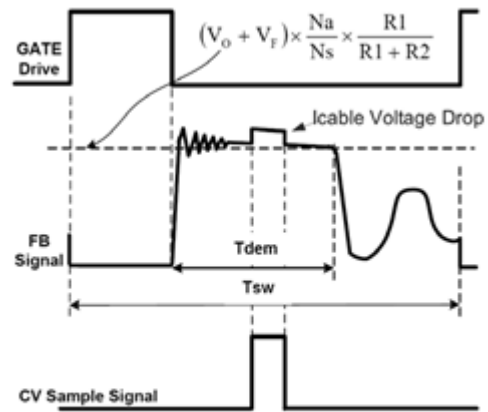

Fig.2
In primary side control, the output voltage is sensed on the auxiliary winding during the transfer of transformer energy to the secondary. Fig.2 illustrates the CV sampling signal timing wave form in SA3540.
As shown in Fig.2, it is clear that there is a down slope representing a decreasing total rectifier Vf and its voltage drop as the secondary current decreases to zero. To achieve an accurate representation of the secondary output voltage on the auxiliary winding, the CV sampling signal blocks the leakage inductance reset and ringing. When the CV sampling process is over, the internal sample/hold (S&H) circuit captures the error signal and amplifies it through the internal Error Amplifier (EA). The output of EA is sent to the PSR Constant Voltage Modulator (PSR-CVM)
During the CV sampling process, an internal variable current source is flowing to FB pin for Cable Drop Compensation (CDC). Thus, there is a step at FB pin in the transformer demagnetization process, as shown in Fig.2. Fig.2 also illustrates the equation for “demagnetization plateau”, where V_o and V_F is the output voltage and diode forward voltage; R_1 and R_2 is the resistor divider connected from the auxiliary winding to FB Pin, N_s and N_a are secondary winding and auxiliary winding respectively. When system enters over load condition, the output voltage falls down and the FB sampled voltage should be lower than 2V internal reference which makes system enter CC Mode automatically.